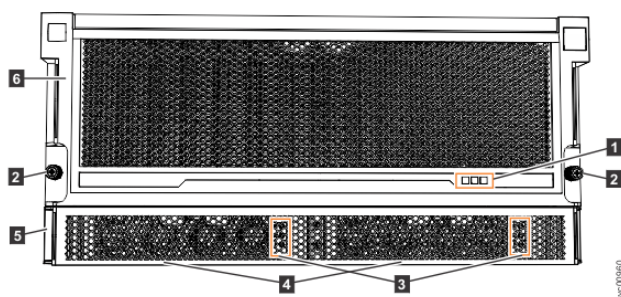
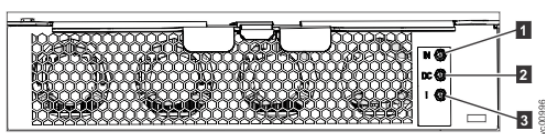

Figure 155. LEDs on the front of the expansion enclosure
Figure 156. LEDs on the front of a power supply unit
As Figure 155 on page 204 shows, the front of the 5U expansion enclosure contains LEDs for the display panel (1) and for each of the power supply units (3).
The 5U expansion enclosure contains two PSUs (4 in Figure 155 on page 204) that are accessible from the front of the enclosure. Each PSU has its own a set of LEDs, as shown in Figure 156 on page 205.